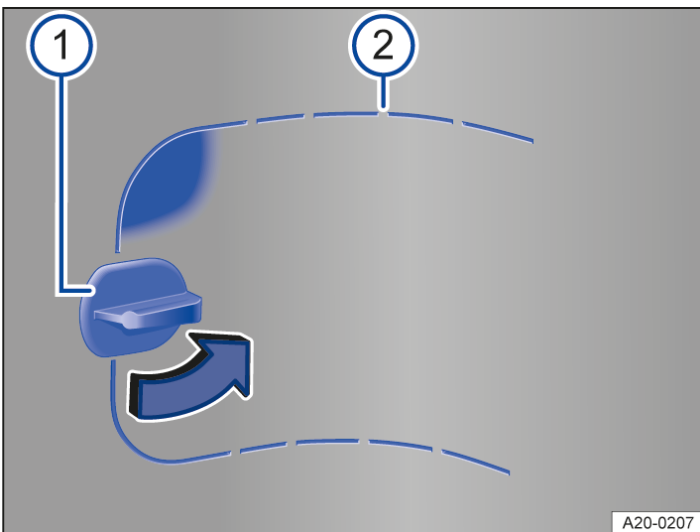

Fig. 2 Luggage compartment trim, bottom right: flap with coupling point.
- Turn the catch of the flap by 90 ° → Fig. 2 (1) (blue directional arrow).
- Press in the area above the catch → Fig. 2 (area marked blue).
- Reach into the opening and release the flap by pulling. If necessary, use a suitable tool at the coupling point → Fig. 2 (2).